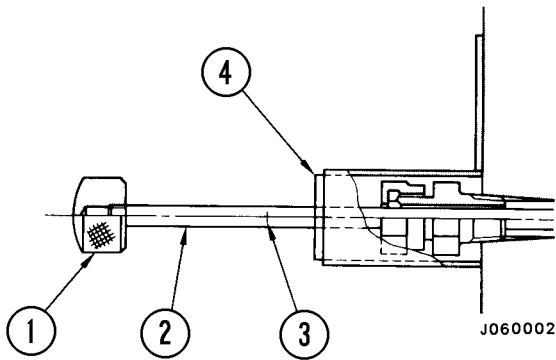

FIGURE 4-12. REAR BRAKE WEAR TOOL
2. Remove air bleed plug (1, Figure 4-11) of the rear brake, and install disc wear measurement gauge as shown in Figure 4-12.